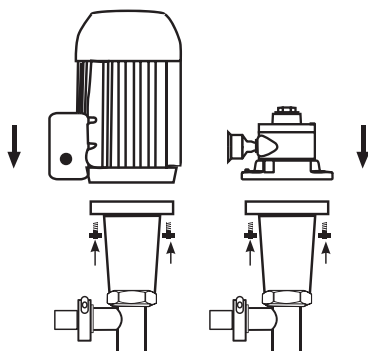

Figure 3
3. Couple the motor to the pump. Bolt electric or pneumatic motor to the pump using the hardware provided by the manufacturer (see figure 3).